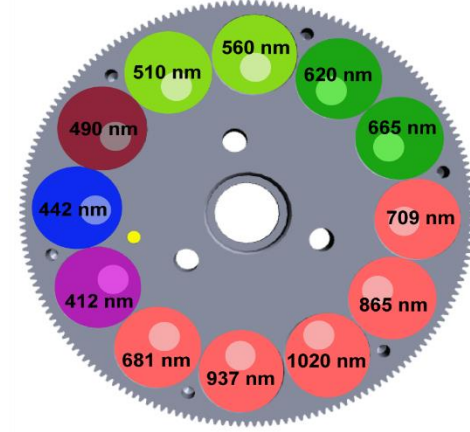

Figure 6 : Lake Color 12 filters
- **Lake Color 12 filters :** It uses 412.5, 442.5, 490, 510, 560, 620, 665, 681, 709, 865, 937, 1020 nm filters (Fig.6)